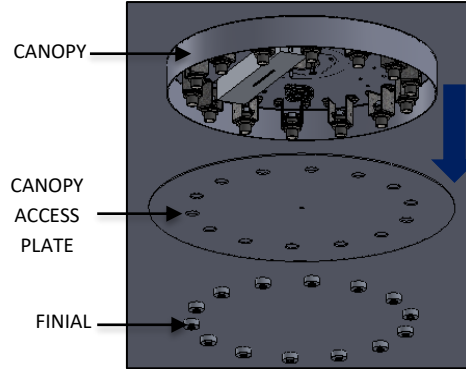

FIG. 7 – CANOPY ACCESS PLATE DIS-ASSEMBLY
1. Dis-assemble the FINIAL (7 OR 14) and the CANOPY ACCESS PLATE from the CANOPY SUBASSEMBLY and feed the building supply wire into the hole in the CANOPY as it is raised up to the ceiling as shown in below fig. 7.